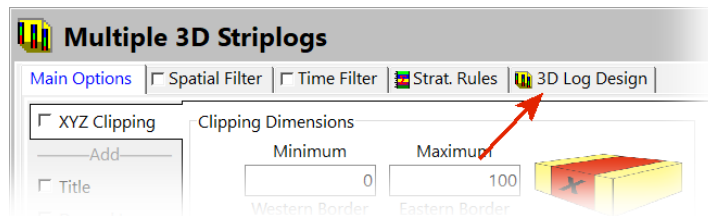

Figure 62
- Click on the 3D Log Design tab (Figure 62).